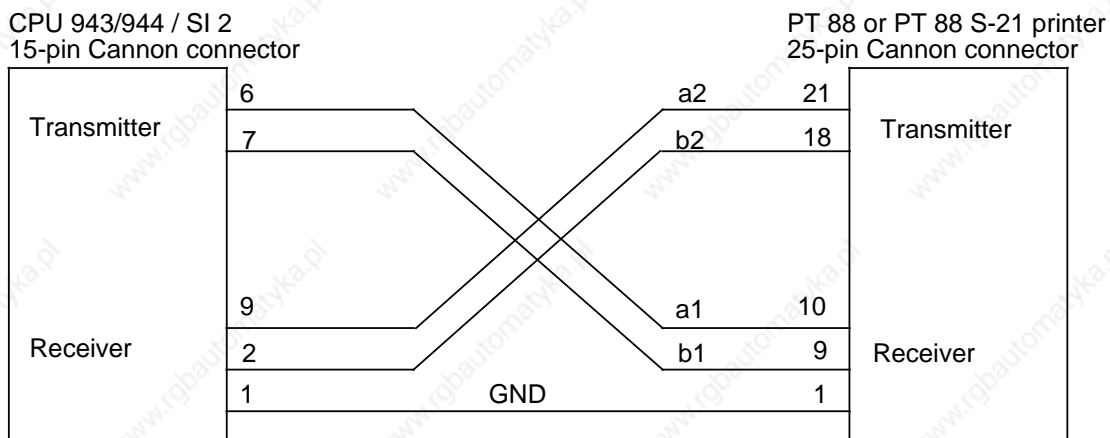

Figure 12-12. Connector Pin Assignments on the Connecting Cable between the CPU 944/SI 2 and the PT88 or PT88 S-21 Printer (TTY)
- Connect the PT88 printer to the CPU 943/944 interface SI 2 with the appropriate cable (see Figure 12-12)